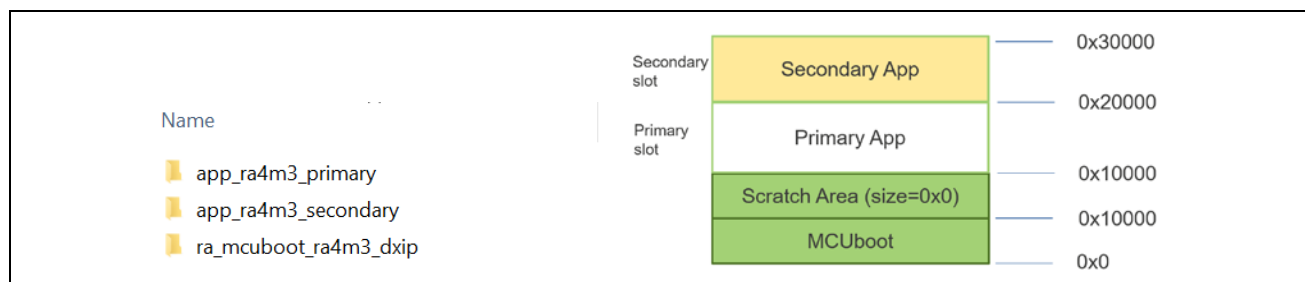

Figure 27. Example Projects for RA4M3 Direct XIP Update Mode
2. Import the project under folder \ra4m3_dxip_with_bootloader_flat to a workspace and see the following set of example projects in Figure 27.